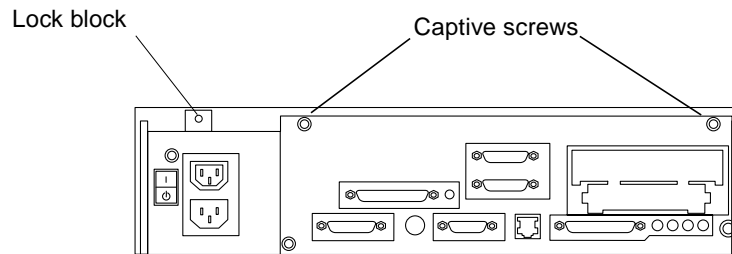

Figure 2-1 Lock Block Location
1. Use a Phillips screwdriver to remove the lock block (if installed) on the cover (Figure 2-1).
2. Loosen the two captive screws securing the cover (Figure 2-1).